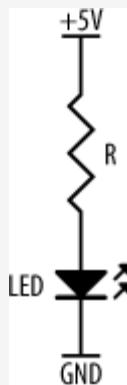

Figure 4-51. Using a resistor to limit the current flow through a LED
There is a limit to the amount of current that can pass through a LED. Exceeding this current will potentially damage or destroy the LED. For this reason, LEDs are used in conjunction with a current-limiting resistor. Figure 4-51 shows such a circuit. Some LEDs will incorporate a current-limiting resistor internally. However, most do not, so it is important to check the manufacturer's datasheet. Generally, you'll need to include the resistor, and calculating the required value (R) is easy.